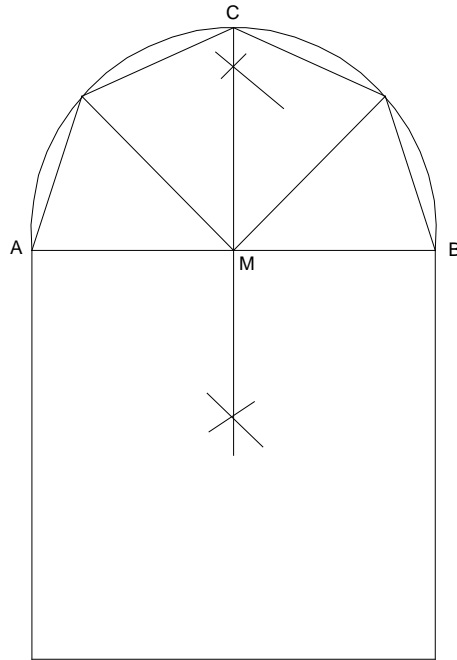

Figure 8.16
6. These chords will give you the gambrel shape desired, which complete both ends of the barn roof (**Figure 8.16** includes glue tabs).